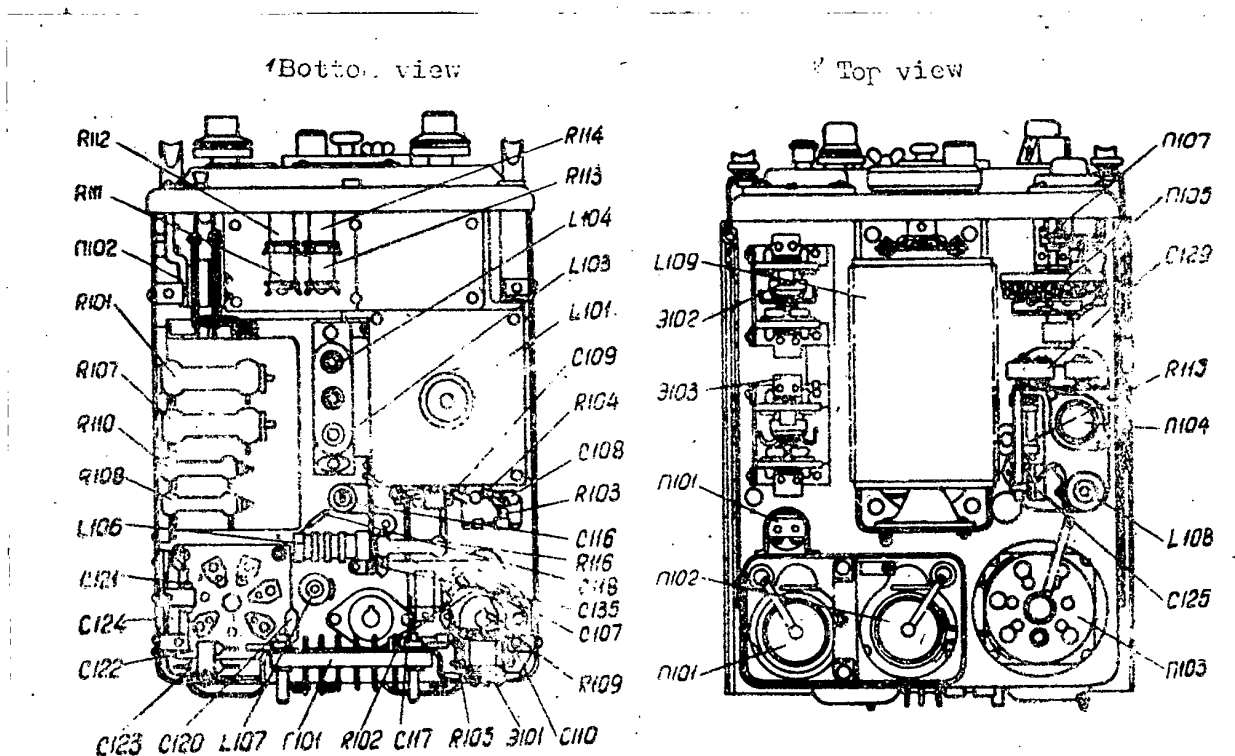

Figure 5: Location of the components in the r.f. units
- 1/ Capacitors C 109, C 107, C 114, C 117 and C 116 in the plate circuit of the L 101 and L 102 vacuum tubes. The location of the components on the chassis is shown in fig. 5.